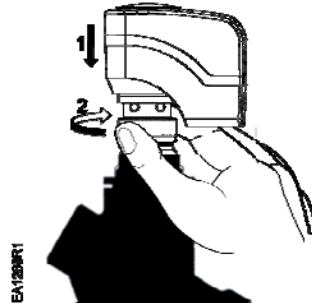

Figure 7. Hand-Tighten Clockwise.
7. Place the actuator on the valve and firmly hand-tighten the coupling clockwise. See Figure 7.
- Place the actuator on the valve and firmly hand-tighten Figure 7.